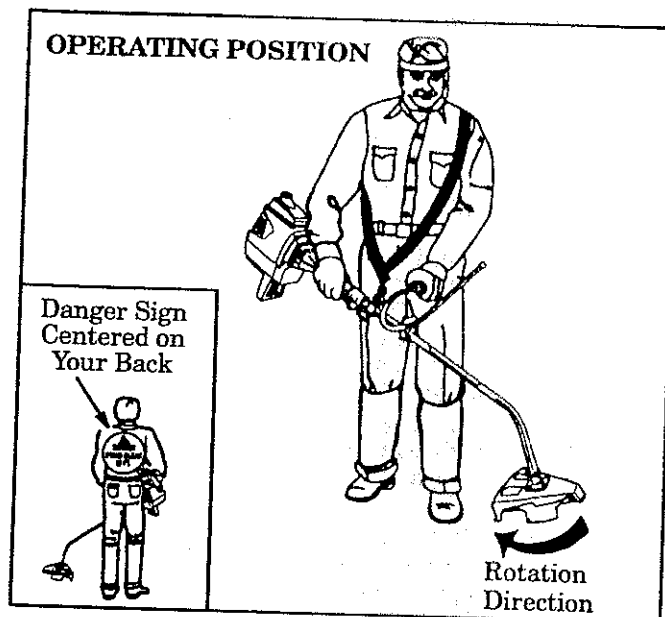

Figure 5
2. Place shoulder strap on your left shoulder with the Danger Sign on your back and hook to the right side of your waist. Figure 5.
4. Fasten the shoulder strap hook to the clamp and lift the tool to the operating position. Figure 5.